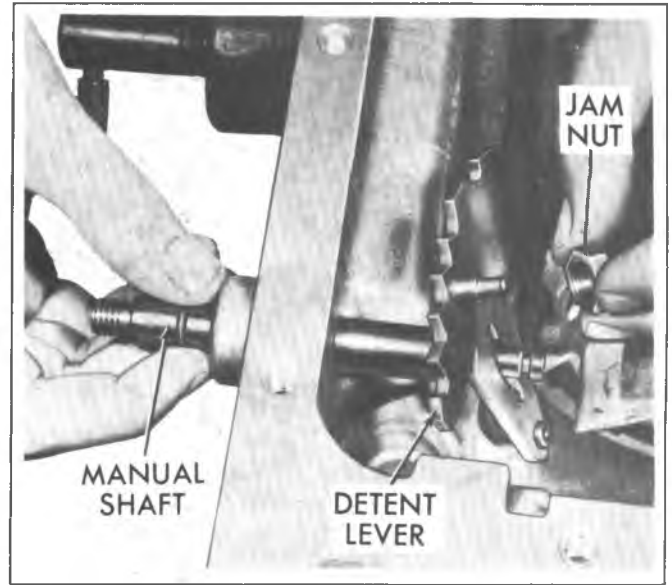

Fig. 7A-165C--Installing Detent Lever and Jam Nut to Manual Shaft
e. Install detent jam nut on manual shaft, and tighten to 18 ft. lbs. (Fig. 7A-165C).